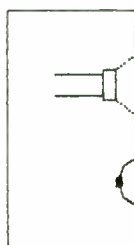

FIGURE 4: The passive radiator enclosure.
**The Interconnected.** A passive radiator's enclosure consists of a cabinet with two holes (Fig. 4). One contains the driver, and the other the passive radiator. The box is modeled as a compliance, as is the simple enclosure. The passive radiator itself is modeled like a speaker with no voltage source. You calculate the values of its equivalent capacitance, inductance, and resistance exactly as those for a speaker. The cabinet compliance and passive-radiator equivalent circuit are in parallel, and one end of the circuit is connected to ground.